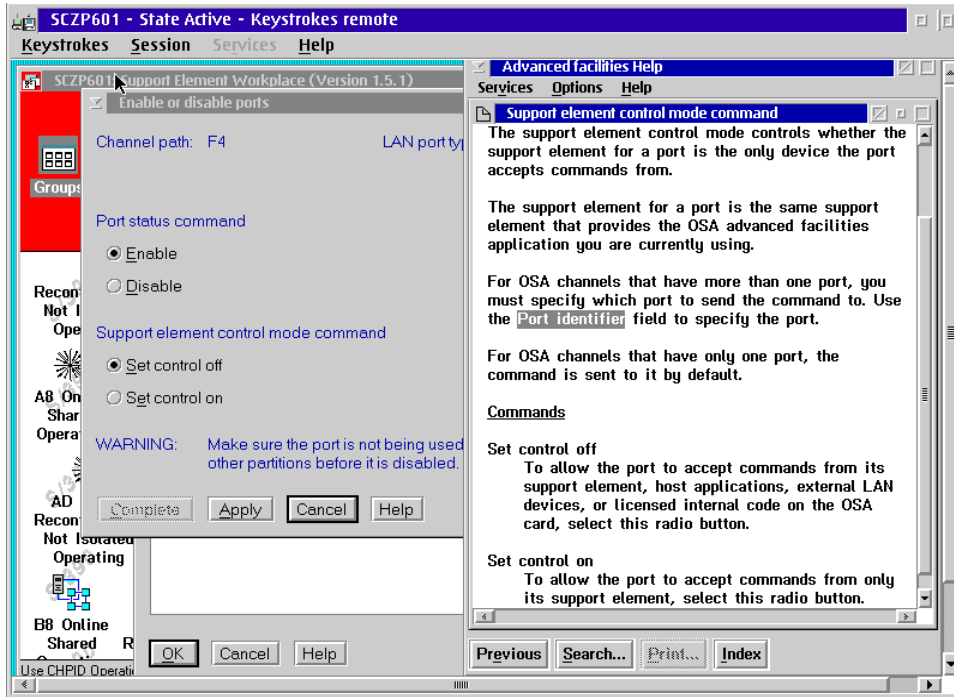

Figure B-6 Enable or disable ports panel
**Note:** Online help is available for each function on the HMC or the SE. Figure B-6 on page 186 shows an example of the online help screens. The online help can be activated in two ways:
Select **Enable or disable ports** and click **OK**. The Enable or disable ports panel is displayed, as shown in Figure B-6 on page 186.
The left part of Figure B-6 shows the Enable or disable ports panel. The right part is an example of the online help for the support element, which can be activated in two ways: